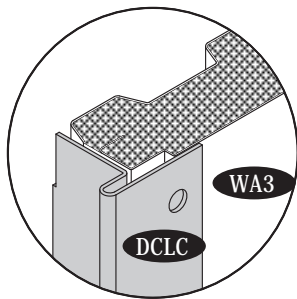

Fig.1
41. Insert the door column (DCLC) into the base 'U' channel as well as with wall panel (WA3). See fig.1&2. The bottom of the door column will be in between the base 'U' channel & wall panel. See fig.2. Secure the column with base 'U' channel by (S1) screw from inside. See fig.3.